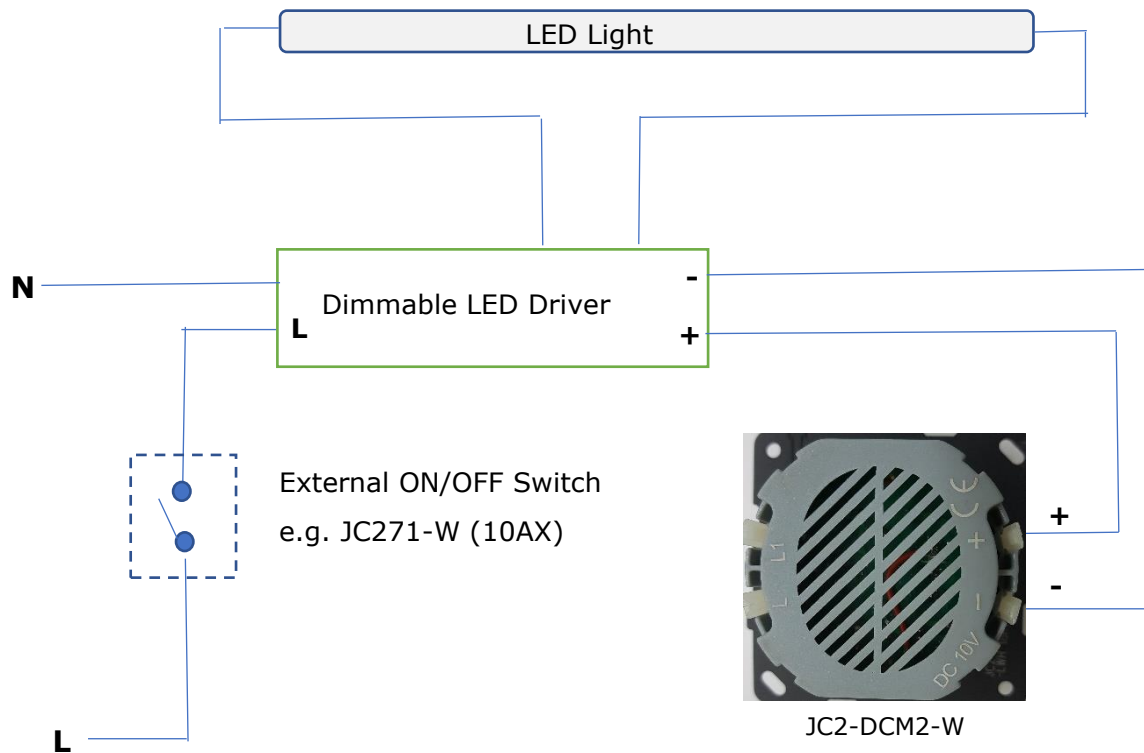

Fig. 3: Using External ON/OFF Toggle Switch
- The Push ON/OFF switch is rated at 6 Ampere resistive load, de-rating required for high surge electronic driver loads. For higher AC load current an external switch can be installed (see Fig 3).